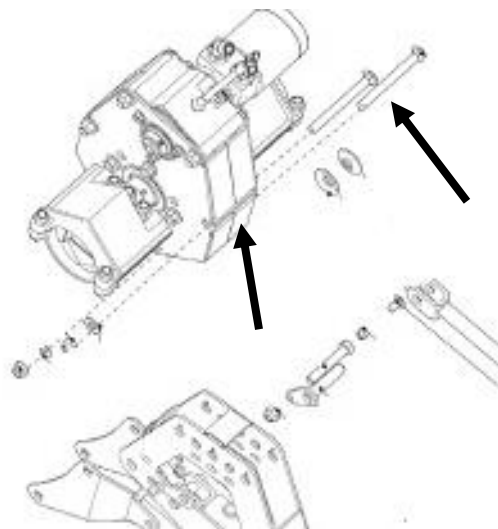

Figure 178
3. Disconnect the hoses and the electrical connections. The bolts at the front of the reel arm can now be removed. This will allow the gearbox to be pulled from the reel arm. Figure 178